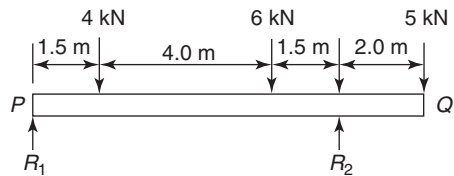

Figure 5.20
6. For the simply supported beam PQ shown in Figure 5.20, determine (a) the reaction at each support, (b) the maximum force which can be applied at Q without losing equilibrium.